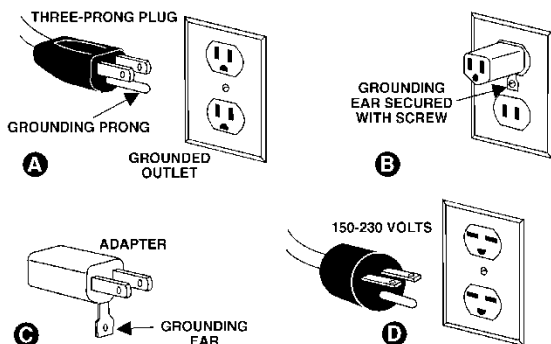

Figure 6-1
The JWBS-15 band saw is for use on a nominal 115-V circuit and have a grounded plug that looks like the plug illustrated in sketch A in Figure 6-1. A temporary adaptor that looks like the adaptor illustrated in sketches B and C may be used to connect this plug to a 2-pole receptacle as shown in sketch B if a properly grounded outlet is not available. The temporary adaptor should be used only until a properly grounded outlet can be installed
2. The 115V attachment plug supplied with the band saw (A, Figure 6-1) must be replaced with a UL/CSA listed plug suitable for 230V operation (D, Figure 6-1).
The band saw with a 230V plug should only be connected to an outlet having the same configuration (D, Figure 6-1). No adapter is available or should be used with the 230V plug.
This tool is intended for use on a circuit that has an outlet that looks like the one illustrated in **D**, Figure 6-1. The tool has a grounding plug that looks like the plug illustrated in **D**. Make sure the tool is connected to an outlet having the same configuration as the